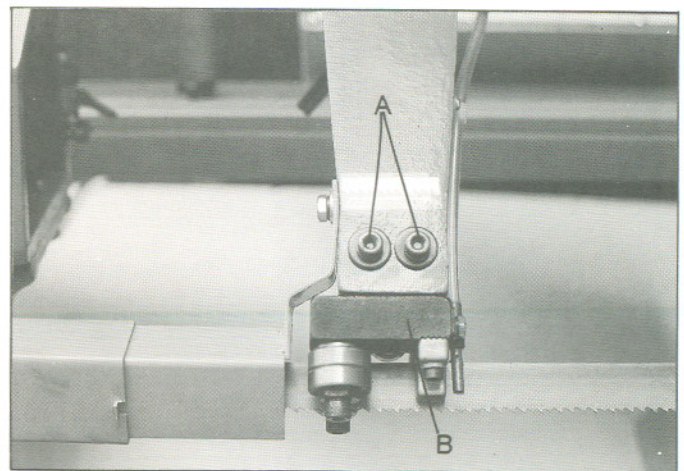

Fig. 9
2. Loosen two hex socket cap screws (A - Fig. 9). **Note:** Left guide roller has two hex socket cap screw; right guide roller has one (HBS-916W only) The HBS-1018W has two screws on each guide..
3. Move guide seat (B) up or down until a clearance of .003" to .005" between back of blade and thrust roller is obtained.